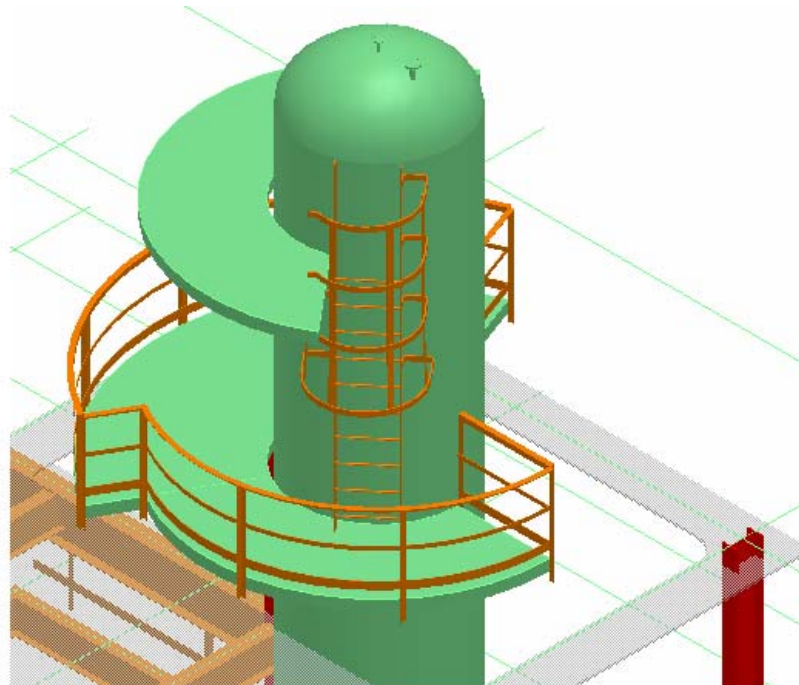

Figure 45: Output of Placing Platforms, Ladder and Handrails from the Catalog
53. Repeat the above steps to place the other handrails on the second platform. The view should resemble Figure 45.